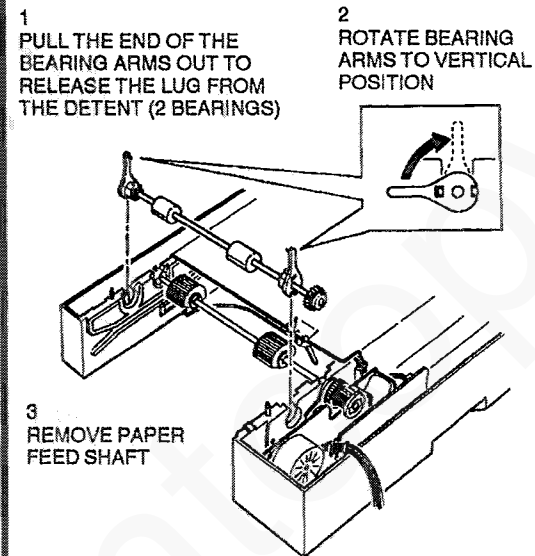

Figure 1. Tray 2 feed shaft removal
2. (Figure 1) Remove the tray 2 paper feed shaft.